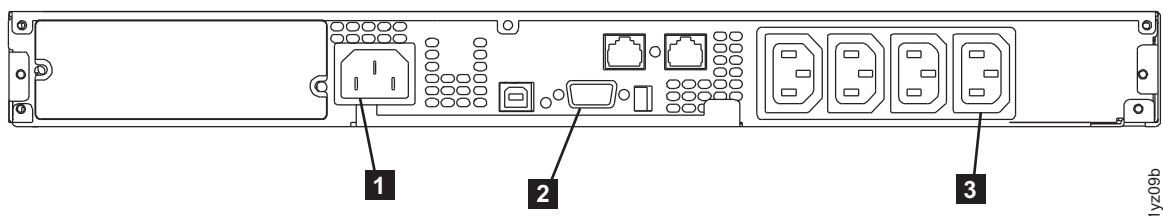

Figure 337. 2145 UPS-1U (rear view)
2. At the back of the 2145 UPS-1U, remove the power cable retainer before disconnecting the SAN Volume Controller power cable from load segment receptacle 2 (**3** in Figure 337 on page 410).
3. Disconnect the signal cable from the communication port (**2** in Figure 337 on page 410).
4. Disconnect the main power cable from the main power source (**1** in Figure 337 on page 410).